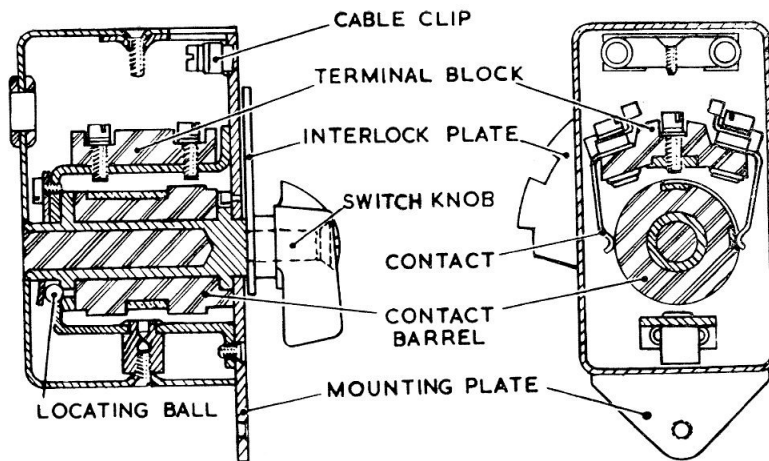

Fig. 2. Switch details
2. The switch (*fig. 2*) consists of a moulded barrel, having a segmented brass contact ring moulded into it, borne by friction bearings in a switch frame and a base plate. The barrel is rotated by means of a knob.